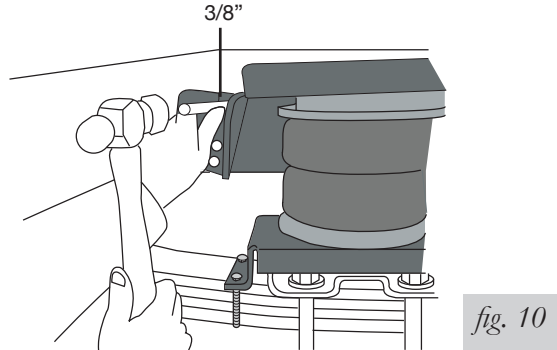

fig. 10
2. Using the upper bracket as a template, center punch and drill one 3/8" locator hole through the frame at one of the top bolt holes (fig. 10).